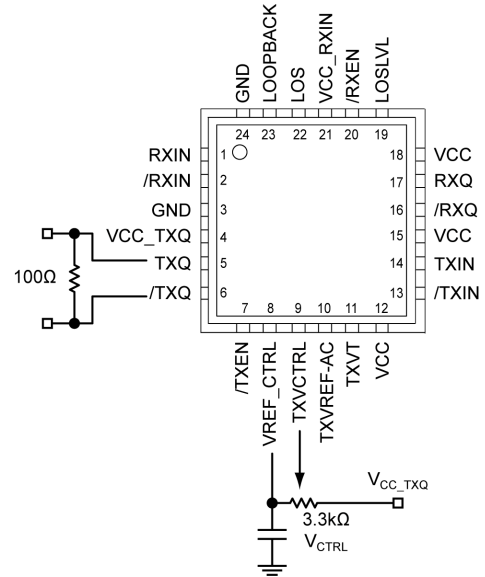

Figure 1b. Alternative Implementation
- Control of the transmitter output swing buffers can be obtained by using a variable resistor connected between  $V_{REF\_CTRL}$  and  $V_{CC\_TXQ}$  with a wiper connected to TXVCTRL as shown in Figure 1b